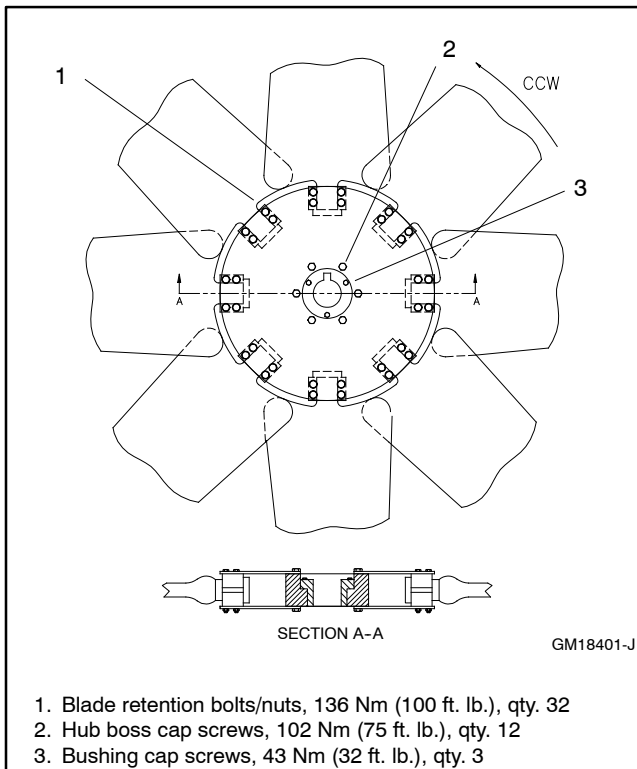

Figure 3-6 Fan Hardware Location and Torque
6. Retorque the (32 qty.) blade retention bolts/nuts to 136 Nm (100 ft. lb.). See Figure 3-6.